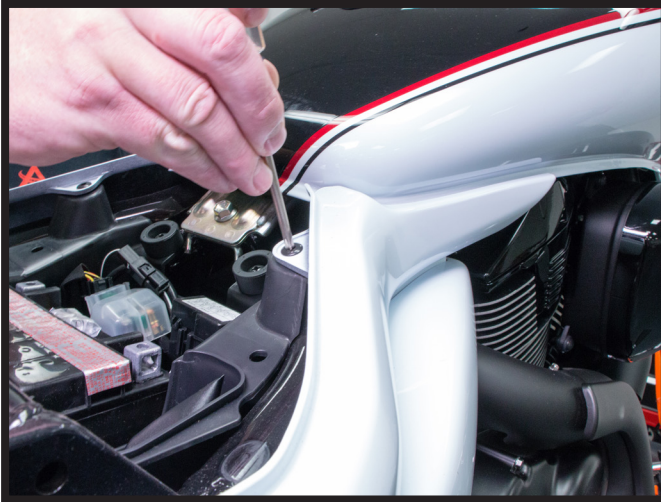

FIGURE 1
1. REMOVE THE SEAT AND BOTH BATTERY BOX SIDE COVERS. (FIGURES 1, 2, 3, 4)